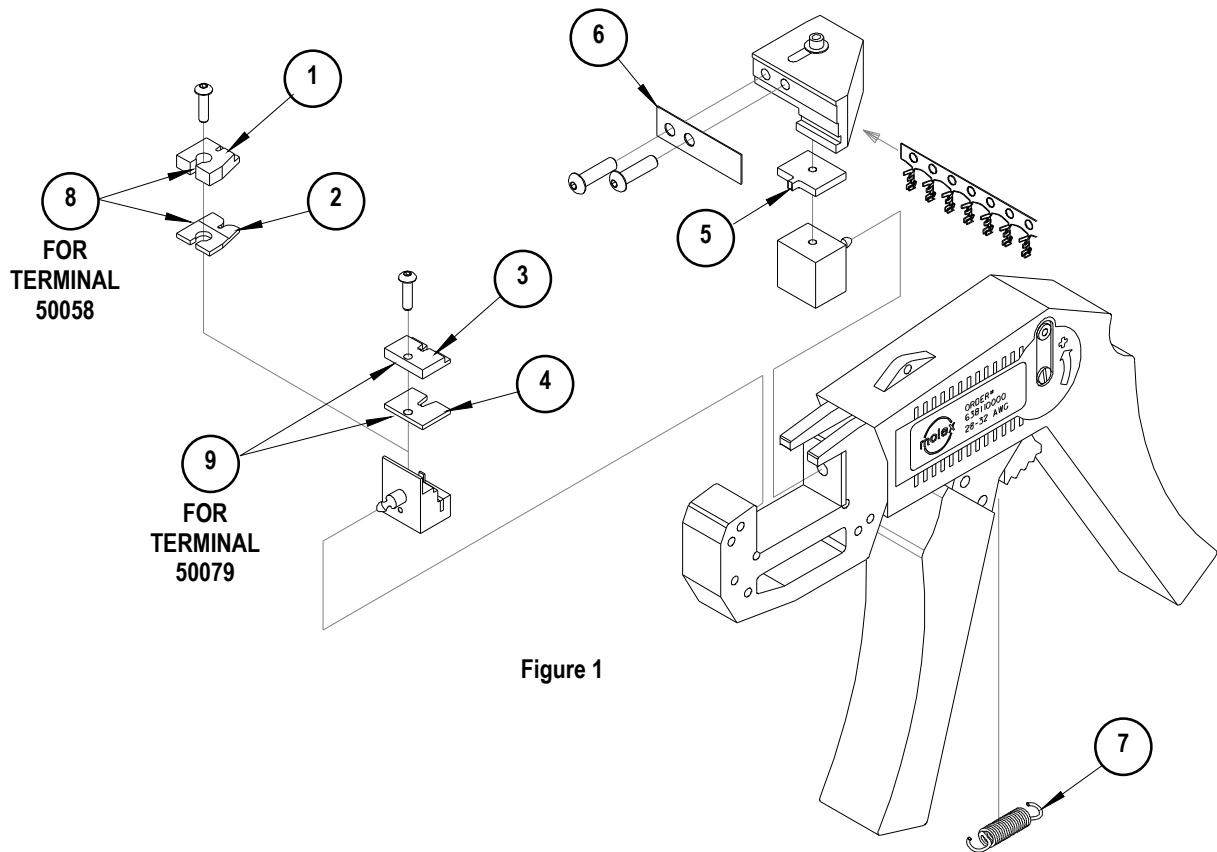

Figure 1
**Note:** There are different tooling sets for each terminal listed above. See parts list and Figure 1 for the correct tooling for each terminal.
|      | 63811-0000 | Hand Crimp Tool           | ---   | Figure 1 |